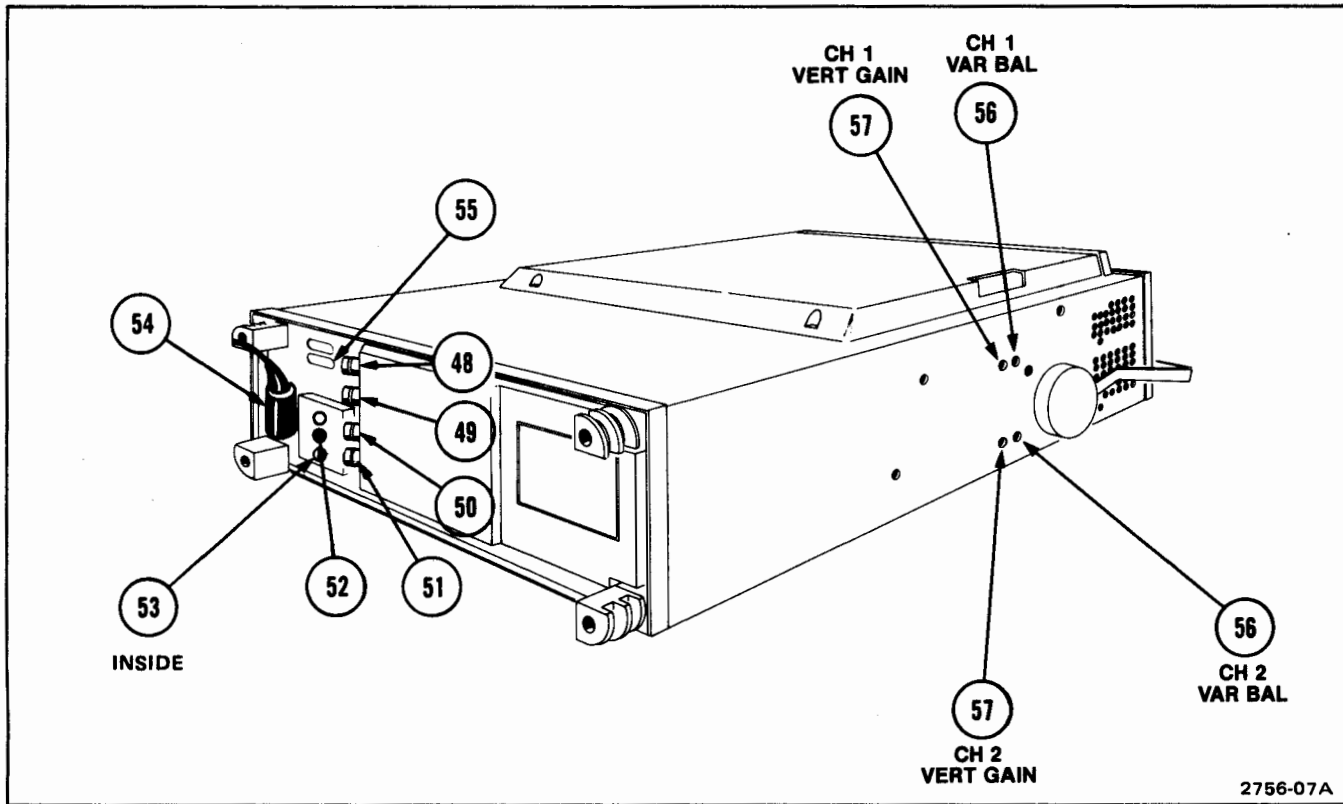

Figure 7. Rear panel and left side panel controls, connectors, and indicators.
Refer to Figure 7 for location of items 48 through 57.
- 52 **Regulating Range Selector Bar**—Selects the regulating range of the 465B power supplies to match the available power input source. It is shown on Figure 7 in the Medium regulating range. See Table 1 for change information.